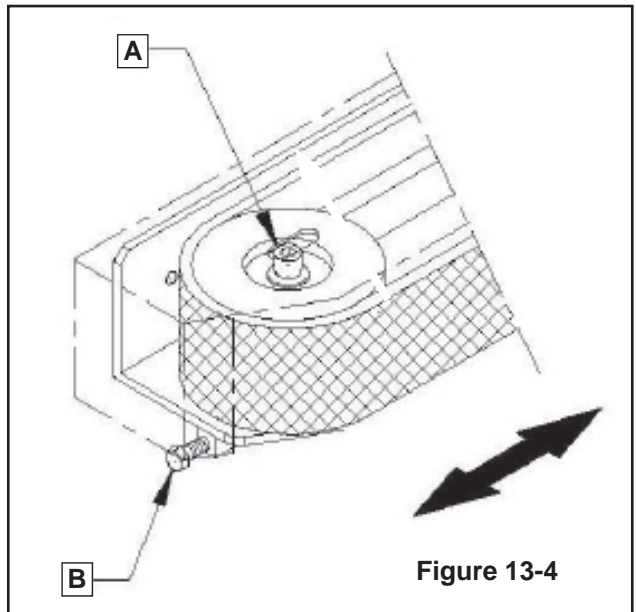

Figure 13-4
6. Re-tighten belt tension screw (**B**). While applying adequate tension to belt, re-tighten belt screw (**A**) (**Figure 13-4** - also see **Box Drive Belt Tension Instructions**).